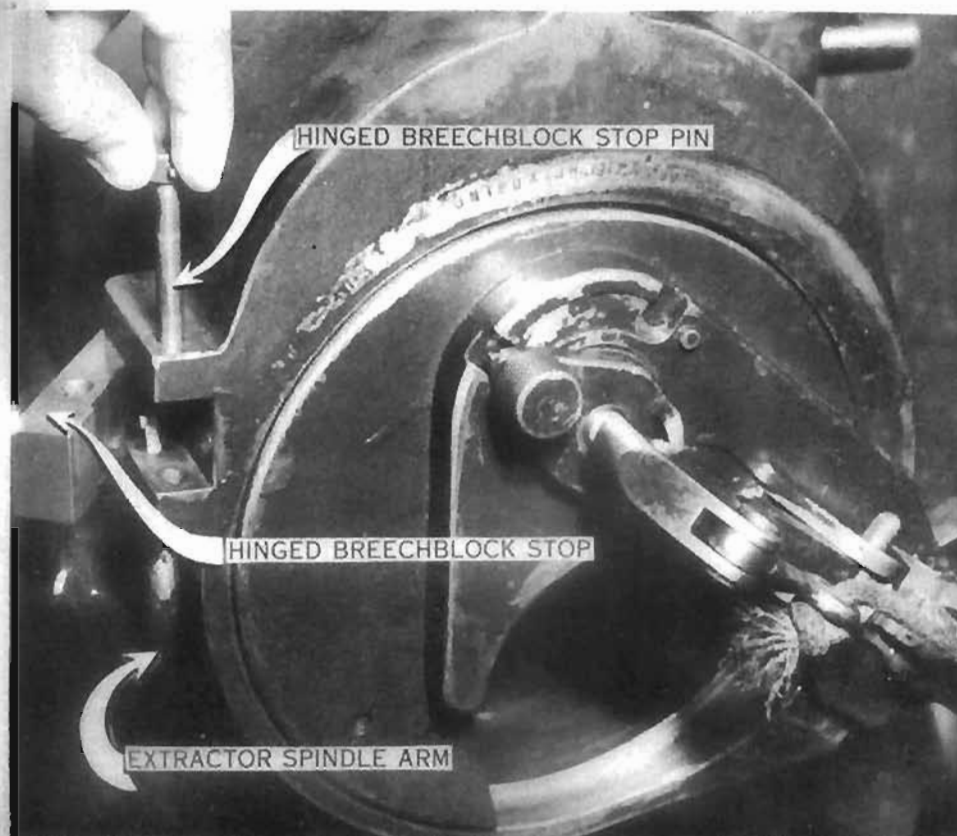

Figure 8
- B. Turn and lift breechblock stop pin and swing hinged breechblock stop to left (fig. 8).